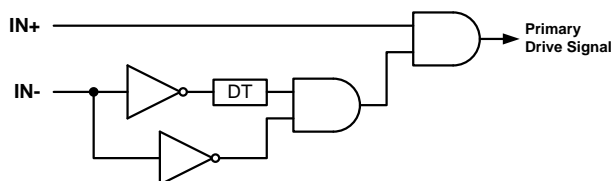

Figure 11: IN+ and IN- Dead Time Control
In this half-bridge configuration, one driver output only goes high when its IN- input is low and the internal fixed dead time (DT) has expired. The MPQ18811 typically selects the longer delay time between the driver's DT and the input control signals' DT as the operating DT. Figure 11 shows IN+ and INT- DT control.